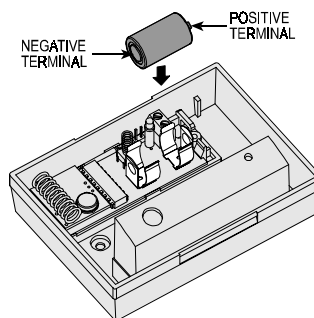

Figure 7. Battery Insertion
D. Insert the battery into the battery clips, as shown in Figures 7 and 8. **Observe Polarity!**